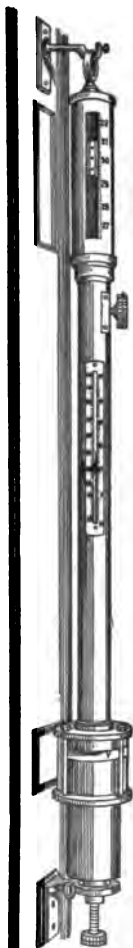

FIG. 33.—A standard barometer.
56. The Barometer.—The modern barometer (Fig. 33), consists of a Torricellian tube properly mounted. Reading a barometer consists in accurately reading the height of the mercury column. This height varies from 75 to 76.5